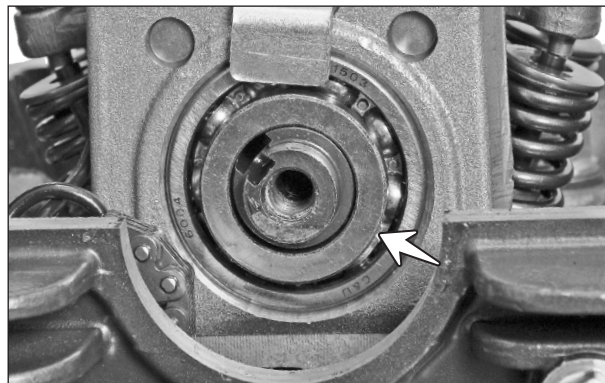

Fig. 3.39
- Take out the washer camshaft sprocket from the camshaft. (Fig. 3.39)